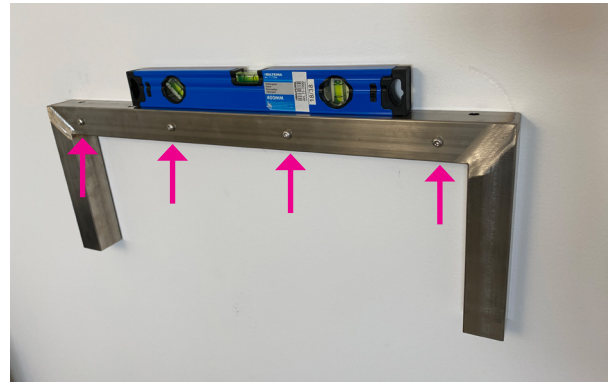

Figure 5
2. Make sure the wall mount is level. If drilling is needed, make sure to mark where as displayed in Fig. 5.
3. Fasten the wall mount on the wall using four screws in the holes as displayed in Fig. 5.